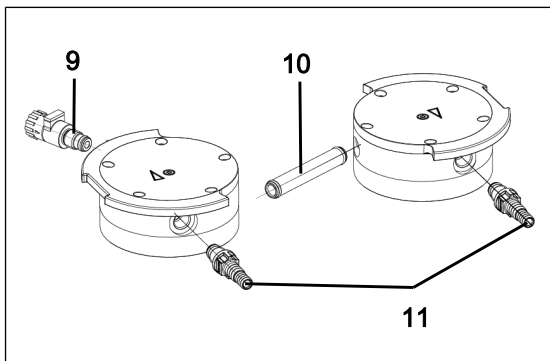

Fig.9: Changing O-rings
2. Pull the connection tube (10/ Fig. 9) out of the head cover (3).
3. Replace the two O-rings on the connection tube (**10**/Fig. 9).
6. Unscrew the gas ballast (**9**/Fig. 9) from the head cover (**3**).
7. Replace the O-ring on the gas ballast (**9**/Fig. 9).
8. Screw the gas ballast (**9**/Fig. 9) into the corresponding head cover (**3**) as far as it will go. Then turn it back again until the surface is oriented upwards.
9. Unscrew the hose connections (**11**/Fig. 9) from the head cover (**3**) using the tool supplied.
10. Replace the O-rings on the hose connections (**11**/Fig. 9).
11. Screw the hose connections (**11**/Fig. 9) into the head cover (**3**) hand-tight using the tool supplied.
7. Insert the connection tube (**10**/Fig. 9) into the head cover (**3**).